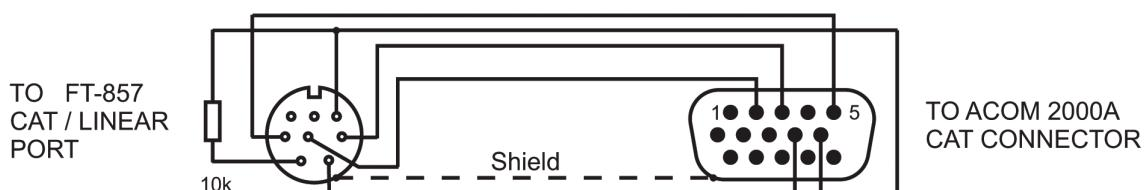

Fig. 7-9 CAT Connection to YAESU FT-897
**- YAESU FT-817, FT-857 and FT-897** The cable is shown in Fig. 7-9. The connector at the transceiver side is a Mini 8 pin DIN. Except of the serial interface wires amplifier control lines also present in the same connector. This makes possible using of a single cable between the transceiver and ACOM2000A as shown on Fig. 7-9. The connector at the transceiver side is a Mini 8 pin DIN. You will also need a 5 wire shielded cable and a 10k pull-up resistor. In case of using this cable, you should not connect separate cables to the KEY-IN and KEY-OUT sockets described in s.2-4 d,e.